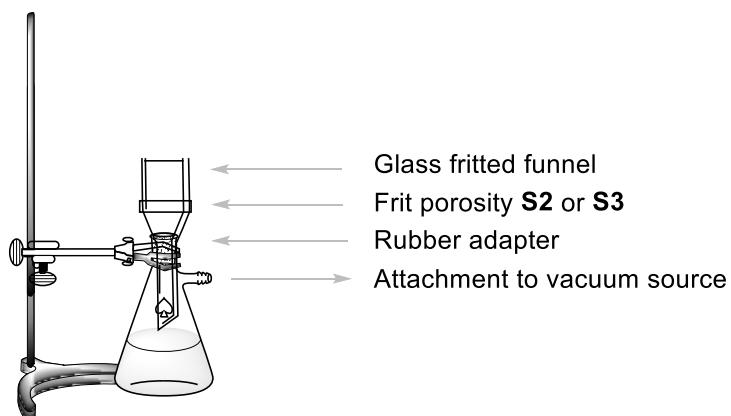

Figure 3. Setup for suction filtration.
2. Set up a vacuum filtration apparatus (Figure 3) using a glass fritted funnel with porosity **S2** (with white label) and secure it to a laboratory stand with a small clamp. Connect the suction flask to the vacuum source. Pour the suspension of product **B** (step No. IV.1) into the fritted funnel, let the solid set down, and then open the vacuum valve. *Caution:* notify the lab assistant before and after handling the valve! Wash the solid twice with 6 cm³ of deionized water, until the pH of the dropping filtrate is about 6. Let air suck through the precipitate for 5 minutes to pre-dry the product. Disconnect the vacuum source. Use the spatula to transfer white product B to a glass vial labelled **Student code B** and leave it uncovered on the bench to dry. Discard the filtrate to the sink drain and wash the suction flask.